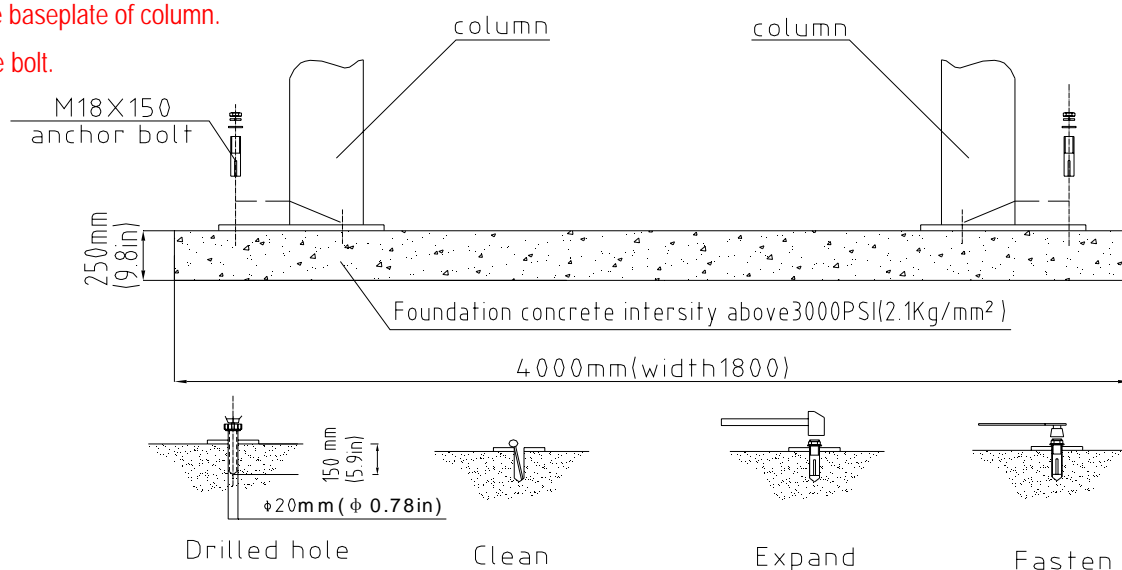

Fig.4
1. First connect and assemble the column, and then raise the column upper right to the location. Align the base plate of column with the chalk line layout. Guided by the hole on the base plate of the column, drilling the holes into the concrete slab and use five concrete anchor bolts to fix it into the ground. During the drilling holes, ensure no movement from the chalk line.(As shown in Fig.4)